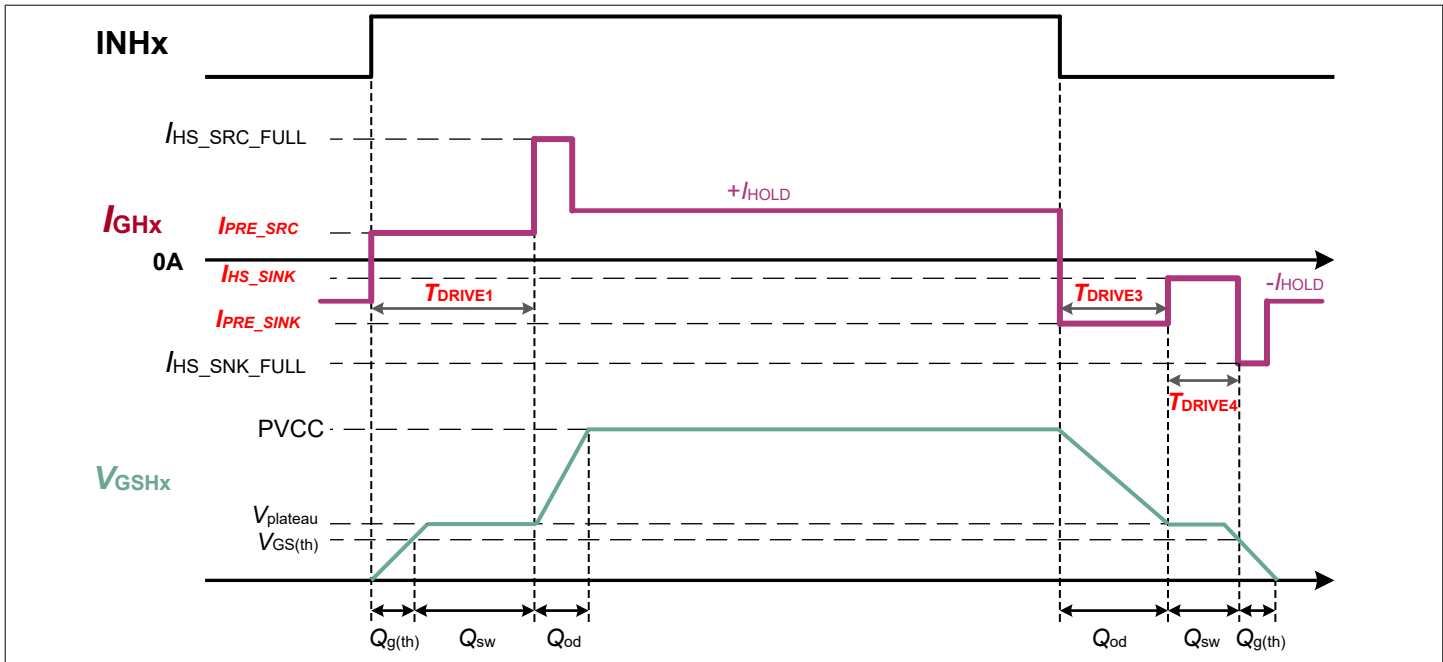

**Figure 14** Detail of MOSFET gate charge during the charging and discharging transitions
The gate driver module integrates gate to source comparators as well. These are used to detect when the  $V_{\text{GS}}$  signal is almost at the target value, that is,  $V_{\text{GSx}} \geq \text{PVCC} - V_{\text{GS\_CMP\_TH}}$  during the switching on and  $V_{\text{GSx}} \leq V_{\text{GS\_CMP\_TH}}$  during the switching off. When any of these happen, the comparator trips and sets the gate current to  $I_{\text{HOLD}}$  value. This is to reduce the power consumption and the impact of the self-turn-on effect, for example, when the high-side MOSFET is turning on while the low-side MOSFET is off. In this case, the hold current for the low-side MOSFET holds the gate of the MOSFET to the source with  $I_{\text{HOLD}}$  strength. In Figure 13  $I_{\text{HOLD}}$  is shown and depending on the  $V_{\text{GS}}$  value, and will be applied sooner or later. In Figure 14 the thresholds for activating  $I_{\text{HOLD}}$  current are shown.
Figure 14 shows details of the charging and discharging transitions for a high-side MOSFET. Similar applies to a low-side MOSFET. The different gate charge areas of the MOSFET are shown. As a result of the flexible timing structure and the high  $T_{DRIVE}$  resolution, the user has full control of the gate current applied during critical charge areas like  $Q_{SW}$  which is the key parameter controlling the MOSFET  $V_{DS}$  slew rate. This at the same time can be done while maintaining fast charging of other areas like  $Q_{od}$  which typically is relatively large compared to  $Q_{SW}$  and therefore, as it does not affect neither  $dV/dt$  nor  $dI/dt$ , can be accelerated by increasing gate current. Additionally, the precharge area ( $Q_{g(th)}$ ), depending on the particular MOSFET, can benefit from a larger gate current than the one applied to the  $Q_{SW}$  region where maximum control is required. Using the precharge current configuration, higher gate currents can be selected for  $Q_{g(th)}$  reducing importantly the precharge timing, which otherwise could have needed several hundreds of ns to reach to  $V_{GS(th)}$ .
**Note:** When the gate to source voltage is getting close to the target voltage, either PVCC when charging or PGND when discharging, the gate driver is not able to fully maintain the target  $I_G$  current. This effect deviates from the ideal behavior shown before and can follow similar behavior to the dashed lines in Figure 14. This is independent from the  $I_{HOLD}$  values described before.